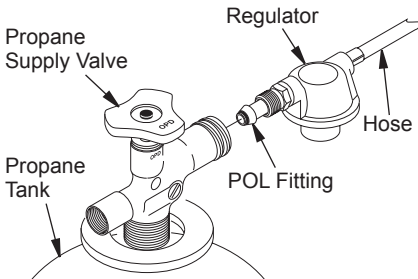

Figure 6 - Regulator Position
2. Connect POL fitting on hose/regulator assembly to propane tank(s). Turn POL fitting counterclockwise into threads on tank. Tighten firmly using 7/8" wrench. **IMPORTANT:** Position regulator so that hose leaving the regulator is in a horizontal position (see Figure 6). This places the regulator vent in the proper position to protect it from the weather.